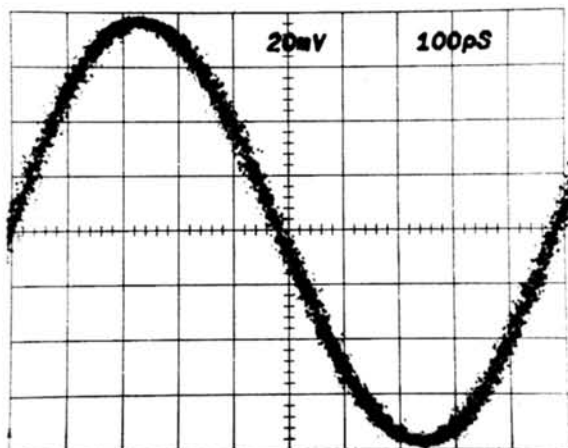

Fig. 7-8. 1 GHz Sinewave at .1 ns/DIV.
d. Change the DELAYED SWEEP to 50 .1 ns and check for one cycle in ten divisions ± 0.3 division (see Fig. 7-8).